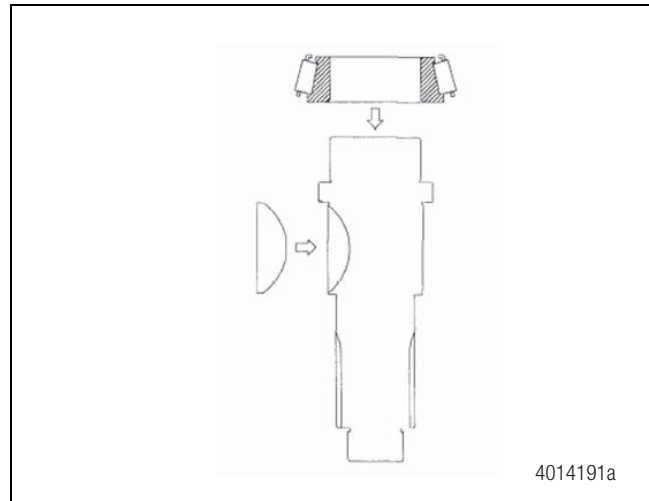

Figure 6.2
2. Heat and install the bearing cone assembly against the shoulder on the non-threaded end of the input shaft. Figure 6.2.